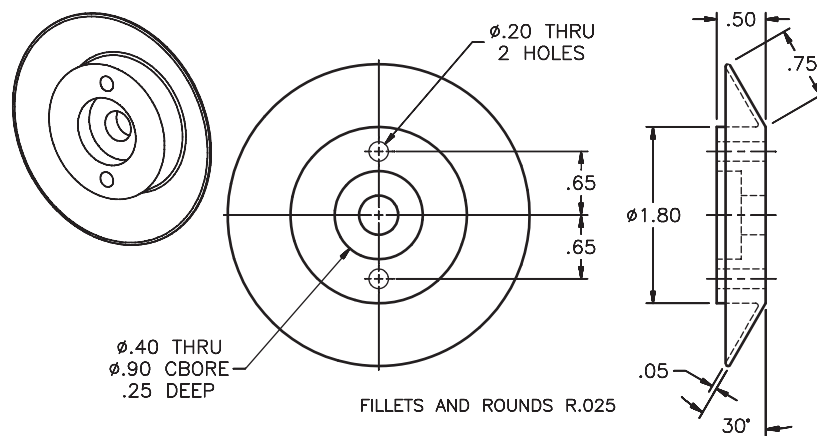

Fig. 44-17
3. Create a solid model of the adjustable pulley half shown in Fig. 44-17. If you allow for the counterbored hole when drawing the profile, you will not have to bring in and subtract cylinders. After revolving the profile, go to the front view and insert and subtract the cylinders for the two smaller holes.